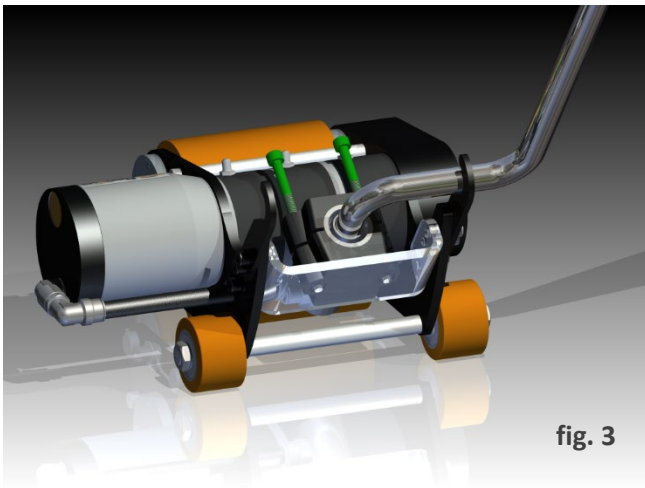

fig. 3
3. Place the fastener in its fixing position paying attention to the correct alignment of the handle in relation to the mechanical lock for the rotation (fig.3)